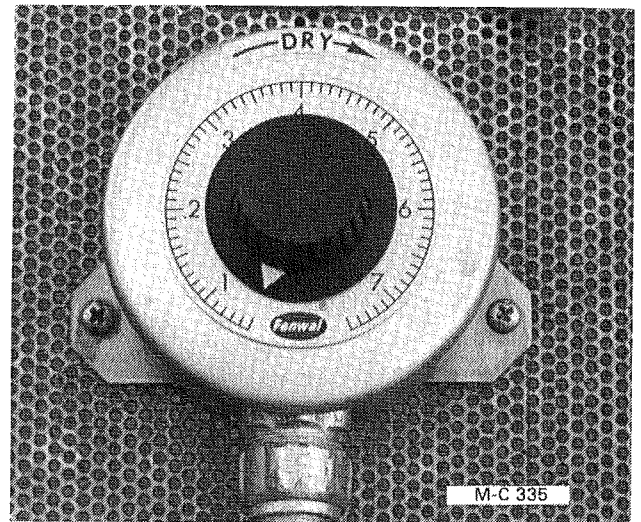

Figure 18 - Moisture Control
6. Turn the moisture control knob on each side of the dryer down below 1 on the dial, see Figure 18.